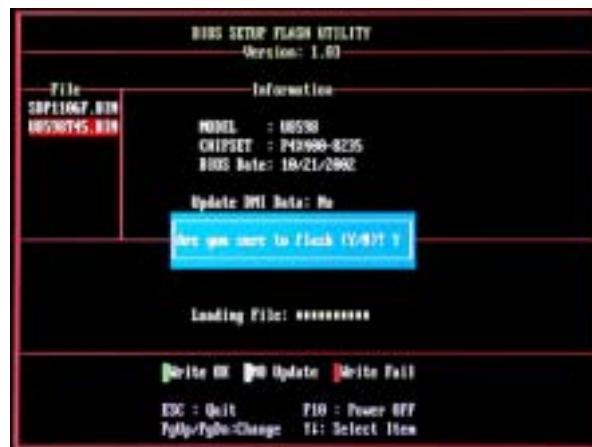

Figure 4
- At the prompt "Are you sure to flash (Y/N) ", press [Y] to flash BIOS or [N] to cancel the flashing process, refer to Figure 4.